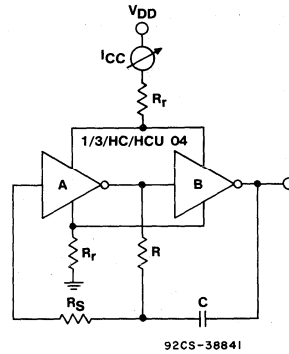
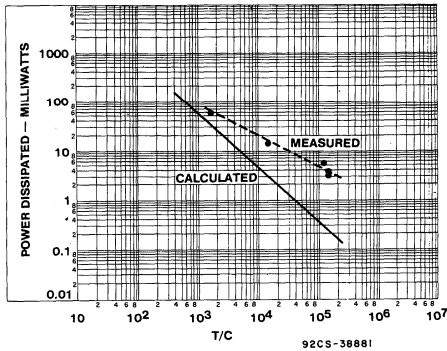

Fig. 9 - Common method of reducing QMOS RC-oscillator power consumption.
Fig. 8 - Power dissipation in oscillator (using an HCT04) as a function of T/C ratio ($V_{CC} = 5.5$ V).
Table I contains parameters, data, and calculations for five operating frequencies. Fig. 8 shows plots of the measured
versus calculated power. Table I and Fig. 8 illustrate two key points concerning RC oscillator power:
Because of the dependence of power on both the frequency and value of C, power is plotted (Fig. 8) as a function of the T/C ratio. Fig. 9 illustrates a common method of reducing QMOS RC-oscillator power consumption. In the circuit, small-valued, current-limiting resistors, R_r , are placed in series with the circuit dc supply voltage, V_{CC} , and with the ground terminals. This arrangement reduces the CMOS flowthrough current during slow switching transitions, when both the PMOS and NMOS transistors conduct transient current from V_{CC} to ground.
The effect of resistor R_r in Fig. 9 is to decrease the output charging current of CMOS inverter (B) into capacitor C, hence the increased charging time of C. The impact of R, on frequency when large values of resistor R are used is minimal; there is a 2% frequency decrease for HC and a 2.5% decrease for HCU when R_r is 47 kilohms, C is 1000 pF, and R_r is 1 kilohm. Figs. 10(a) and 10(b) plot power consumption against the value of R_r for the HC04 and HCU04 types, respectively.